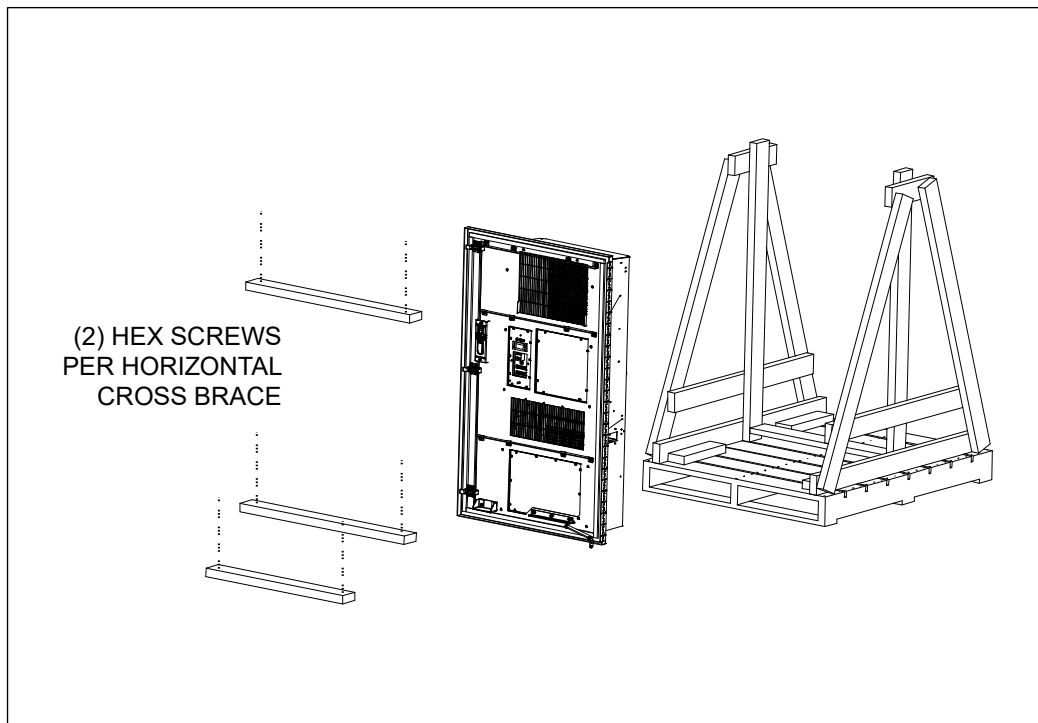

Figure 2 Location of Cross Brace Screws
1. Locate the cross braces on the back of the kit replacement door. Figure 2 shows three cross braces. Some kits may have more or fewer.